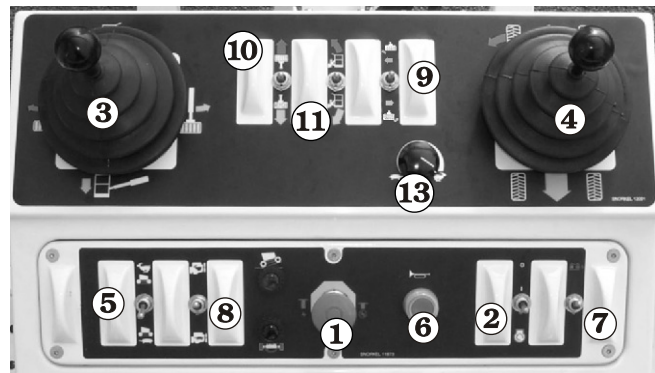

Figure 5.4— Platform Controls, SP20 (Electric Controls)
4. **Drive and Steer Joystick:** The drive and steer joystick (refer to Figures 5.4 and 5.5) controls drive forward and reverse, and steer right and left. The steering and drive functions may be operated simultaneously.